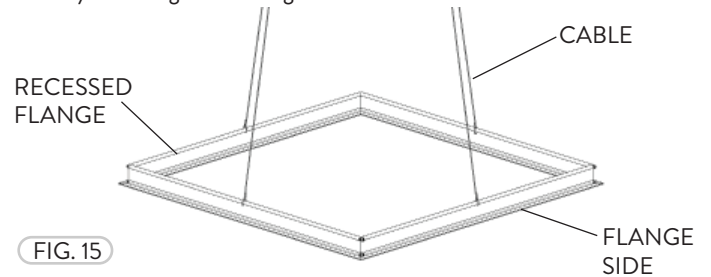

FIG. 15
- 2 Notch out the ceiling drywall surface. Insert the preassembled Drywall Flange frame flush to the ceiling leaving the flanged side underneath the ceiling. If the drywall ceiling is thin install the Cables to support the frame and the FTFS/2 fixture. Cables are not included with the Drywall Flange frame (Fig. 15).